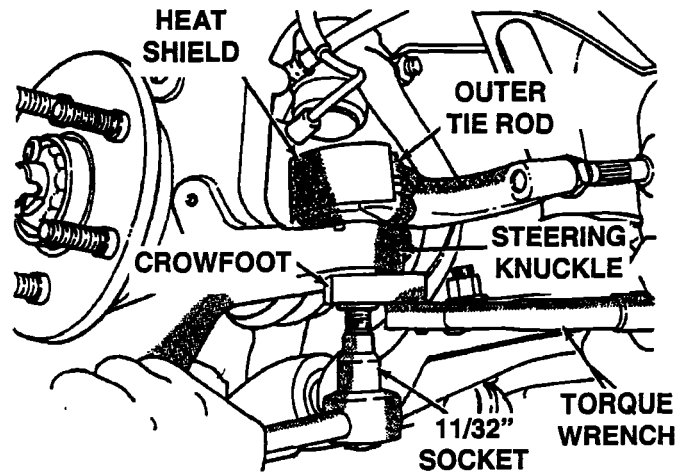

Figure 10
33. Install the outer tie rod stud into the steering knuckle. Start the outer tie rod attaching nut onto the tie rod stud. While holding the stud stationary, tighten the nut to 40 ft-lbs (55 N·m) using a crowfoot and socket (Figure 10).